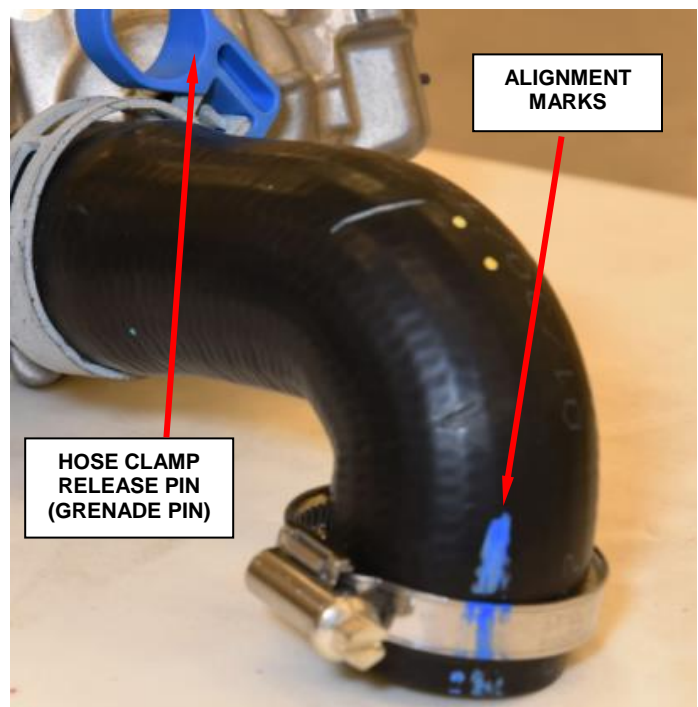

Figure 12 – Align Worm Gear Clamp
23. **If the worm gear clamp gets detached from the EGR hose,** align the worm gear clamp with the alignment marks then tighten to 3.5 N·m (30 in. lbs.) (Figure 12).